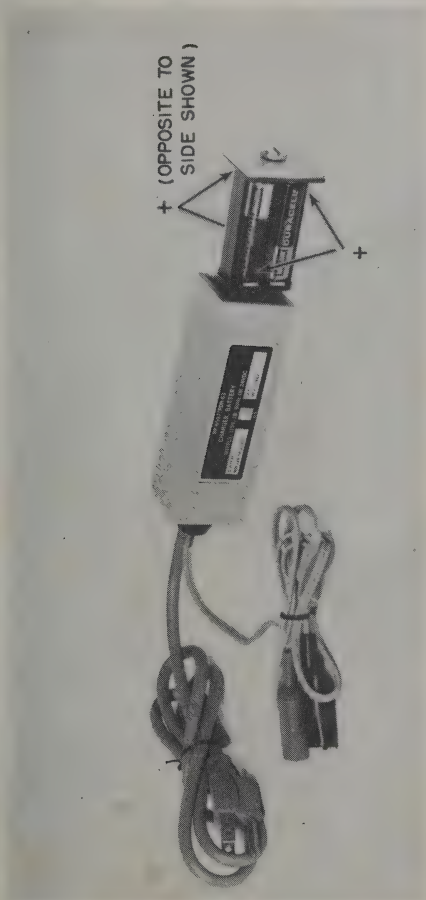

Figure 2-1. Insertion of Batteries in Charger
(1) Unscrew the battery charger cover screw, withdraw the battery cradle and insert four cells from the carrying case. Observe correct polarity as shown in Figure 2-1. It is not necessary to close the unit unless severe moisture is present.